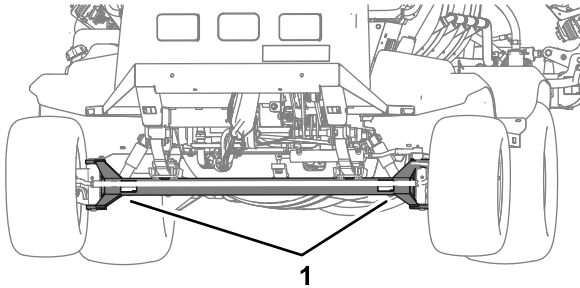
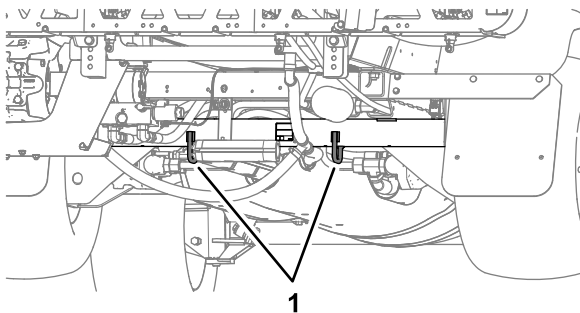

Figure 54
Figure 55
- Bind the machine securely to the transport vehicle; Figure 54 and Figure 55 illustrate the tie-down points of the machine.